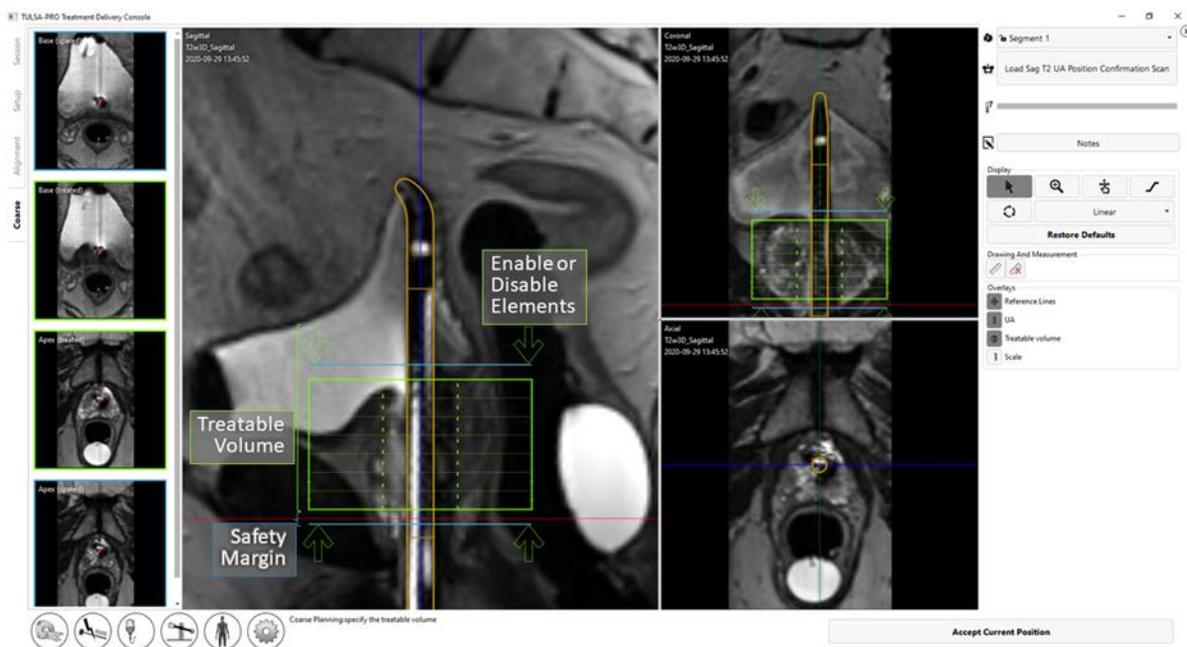

Figure 34: Coarse Planning workspace in TDC
the sagittal and coronal views are anatomical regions expected to be spared fully from thermal coagulation (Figure 34).
**NOTE:** When determining where to position the UA, identify the external urinary sphincter. If the external urinary sphincter cannot be identified, it should be considered immediately adjacent to the prostate apex. Place the light blue line below the first element on the external urinary sphincter (Figure 34).